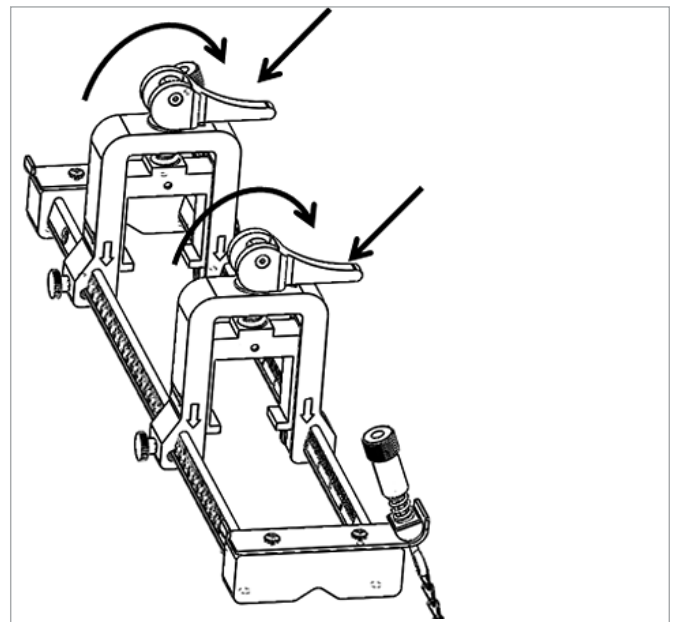

Figure 19: Loaded cams
- Move both cams to the loaded position, so that the clamp holders rest in their furthest radial position from the pipe (see *Figure 19* below).